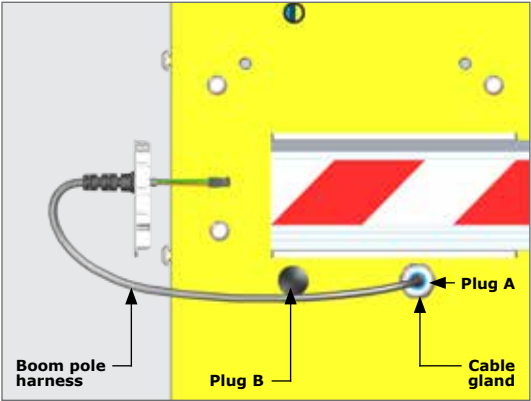

FIGURE 12
8. For a right-hand installation, remove the plastic plug A from the cabinet as shown in Figure 12 and fit the cable gland into the hole. For a left-hand installation, remove the plastic plug B from the cabinet and fit the cable gland into the hole.